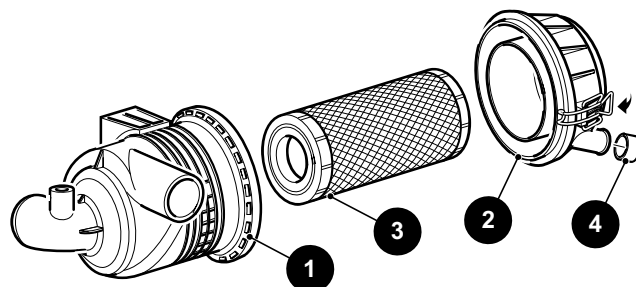

Figure 9 Air Filter Assembly
To access the air filter, raise the seat. Unsnap two clips that secure the cover (2) to the canister (1) and remove the cover. Remove the air filter element (3) and clean the inside of the cover, canister and dust collector (4) (Figure 9).